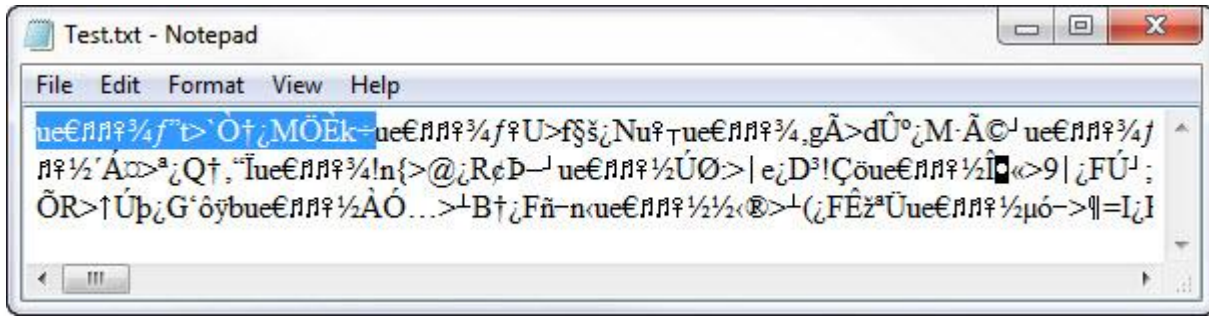

Figure 5: Data packet highlighted
- In the *Configure the 3DM-GX3[®]* section above, we configured the 3DM-GX3[®]-45 to continuously output Euler Angles at 10 Hz each time it is powered up. Suffice it to say that our datalogger is recording data packet after data packet. That is in fact what we are seeing in figure 5.
- Let's parse the first data packet that we see, as highlighted in figure 5.